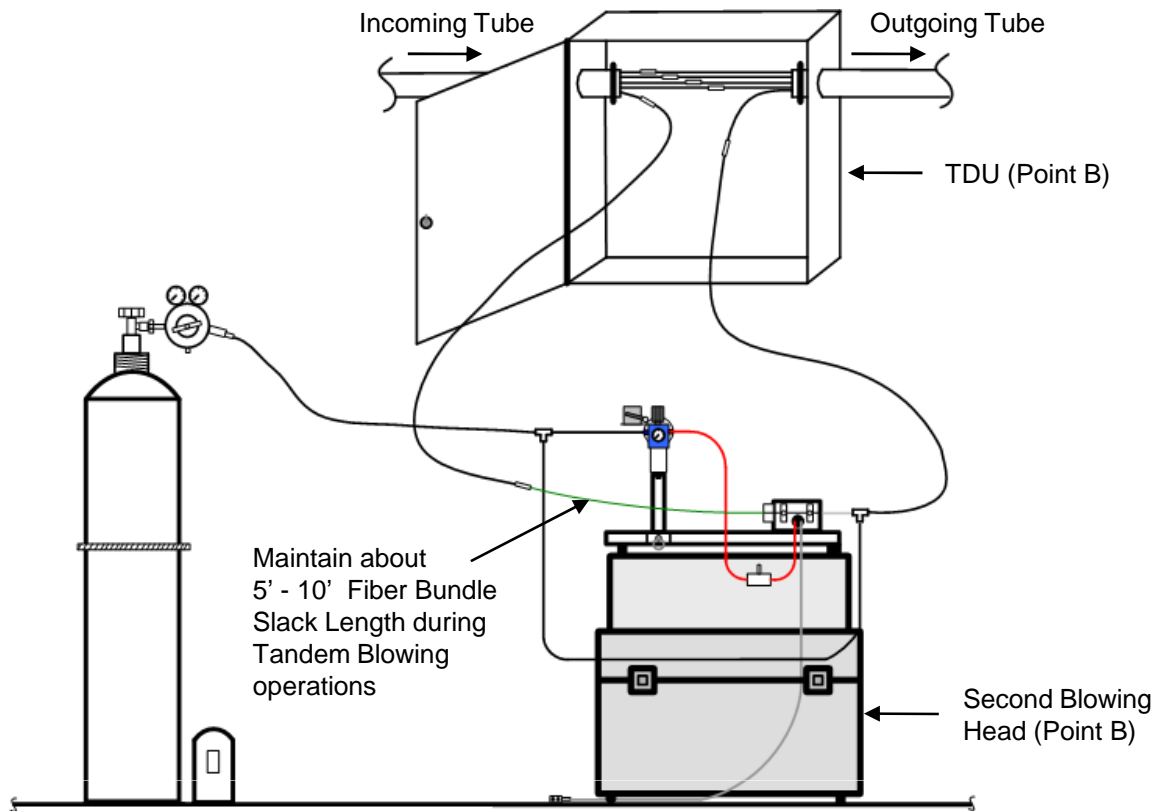

Figure 6
8.1 Blowing Head #2 Operator loads exposed end of fiber bundle into Blowing Head #2 in accordance with Sumitomo Recommended Procedure SRP SP-F04-001. Work quickly to avoid wasting Blowing Head #1 gas supply. **See Fig. 6.**
8.9 When slack loop footage begins to increase, Blowing Head #2 Operator slowly opens Motor Rate Control Valve and starts fiber bundle installation while Assistant carefully guides fiber bundle into back of Blowing Head. **Refer to Fig. 6.**